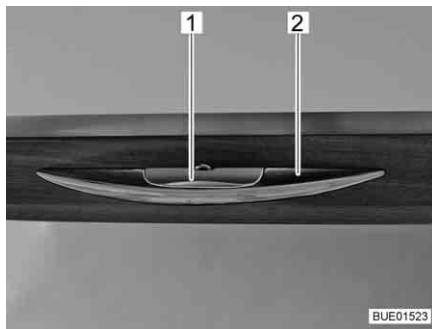

Fig. 53 Furniture flap with release handle
- Press the release handle (Fig. 53,1) and hold it down.
- Pull the handle (Fig. 53,2) until the furniture flap is open.